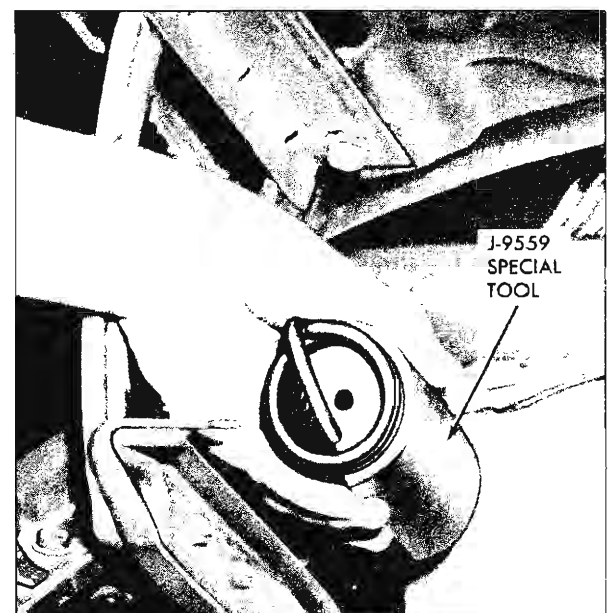

Fig. 8—Removing Spring with J-9559 (typical)
2. Open hood full while still holding spring (with tool installed) in hand; when hood is in opened position, spring may be removed as shown in Figure 8.